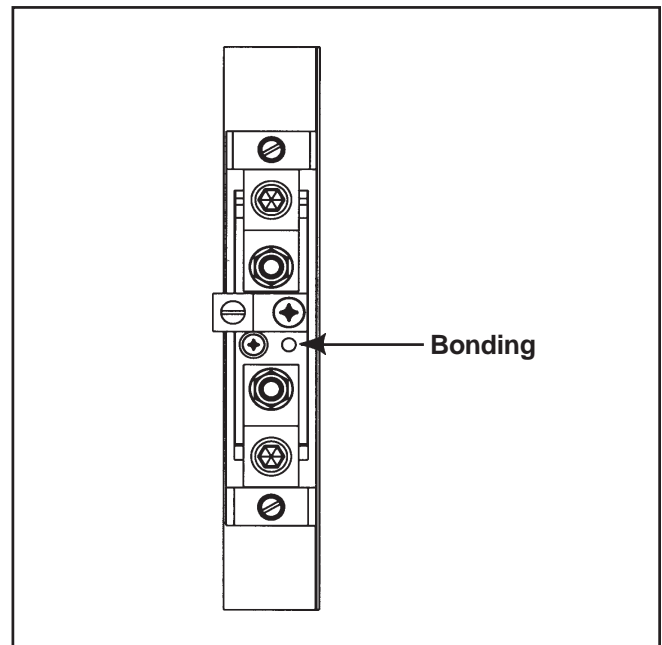

Fig. 2
6. When bonding is required, insert green thread rolling screw and torque to 29 lb.-ins., see Fig. 2.